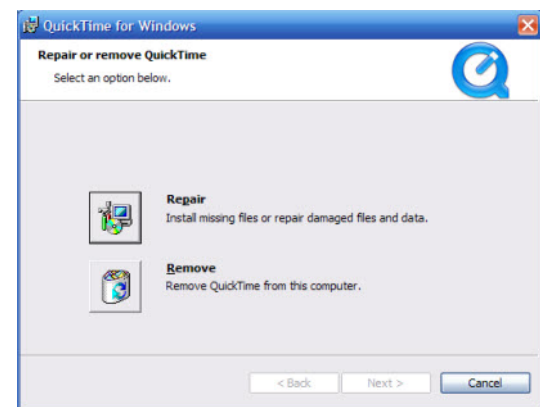

Figure 2.15: If QuickTime is already installed.
**i** NOTE: If QuickTime is already installed on your computer then the install program will ask if you want to remove or repair the current install of QuickTime. You should click **Cancel** (Figure 2.15) and then click **Finish** on the next screen (Figure 2.16).